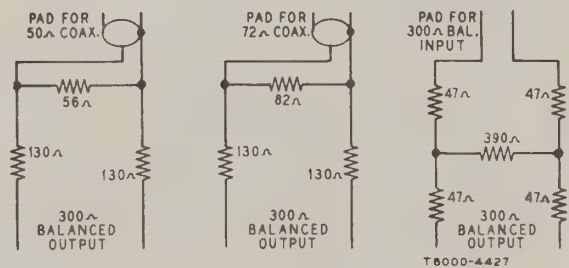

Figure 15 — Sweep Attenuator Pads
- SWEEP GENERATOR** Connect to antenna terminals through pad shown in Fig. 15.
Connect VHF sweep generator to the VHF antenna terminals using pad shown in Fig. 15. Decrease the RF a.g.c. bias, to -3 volts.